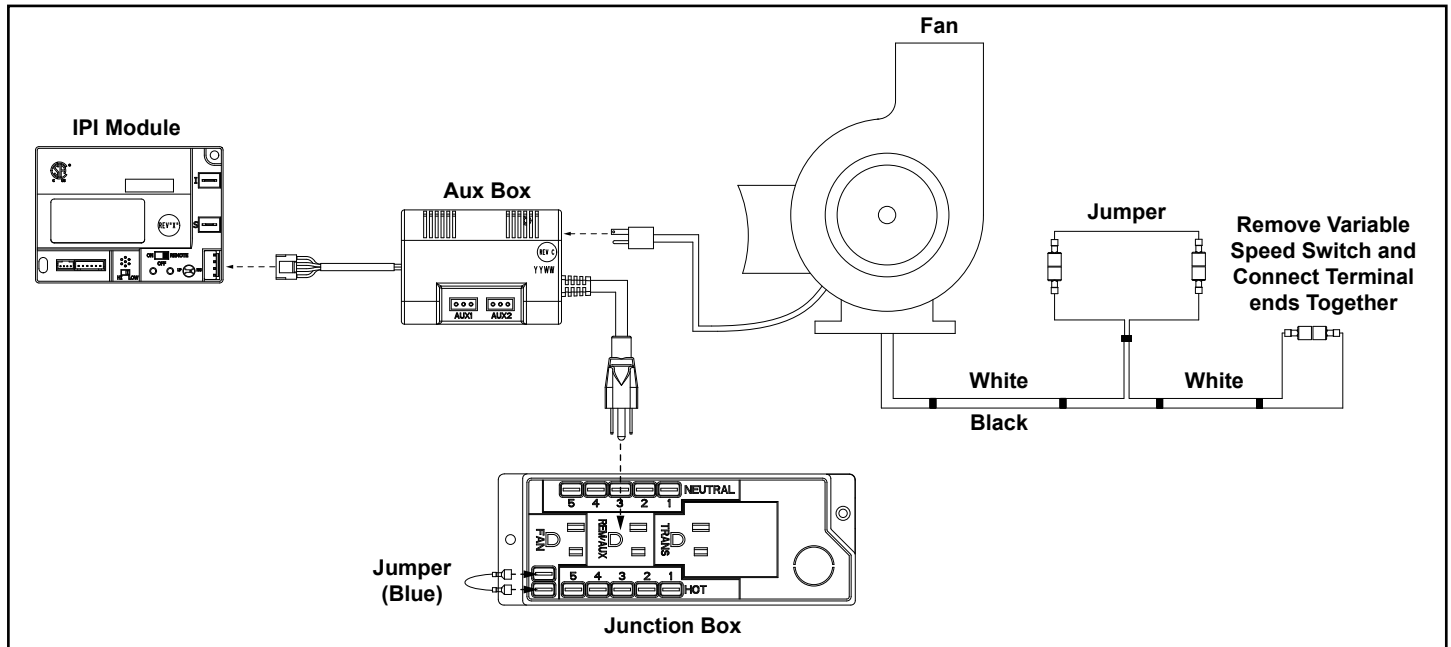

Figure 8.10 Fan Wiring Diagram
4. Plug the wiring harness extending from the auxiliary box into the IPI module supplied with the store. See figure 8.10 (Wiring Diagram)